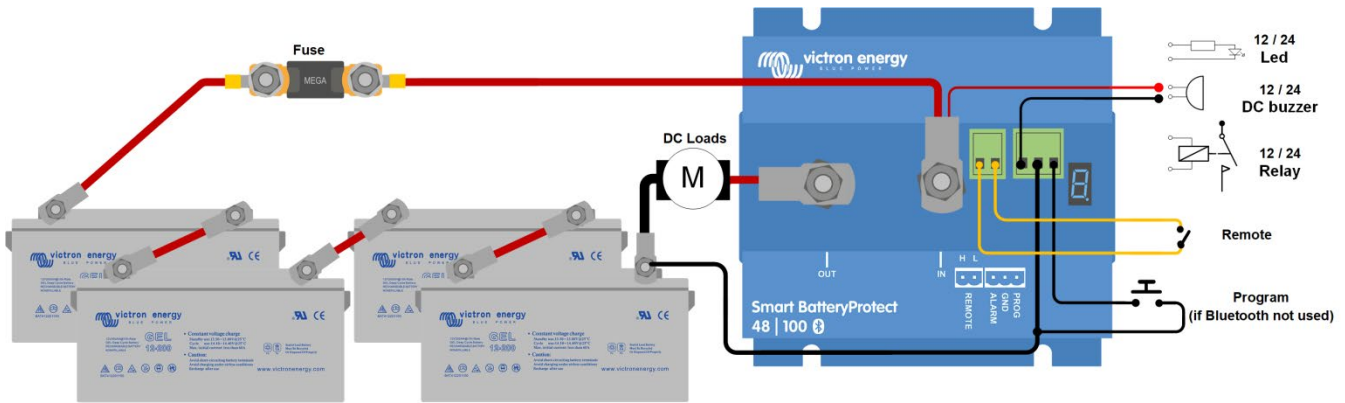

Figure 1 Connection diagram of the SBP 48|100 (use the remote input for system on/off functionality)
8. A remote on-off switch can be connected between Remote H and Remote L (see figure 1). Alternatively, terminal H can be switched high (to battery positive), or terminal L can be switched low (to battery negative).
9. A buzzer, LED or relay can be connected between the alarm output terminal and the battery positive (see figure 1). Maximum load on the alarm output: 50 mA (short circuit proof).
- Een zoemer, LED of relais kan verbonden worden tussen de alarmuitvoerklem en de batterij positief (zie afbeelding 1). Maximale belasting op de alarmuitgang: 50 mA (kortsluitvast)